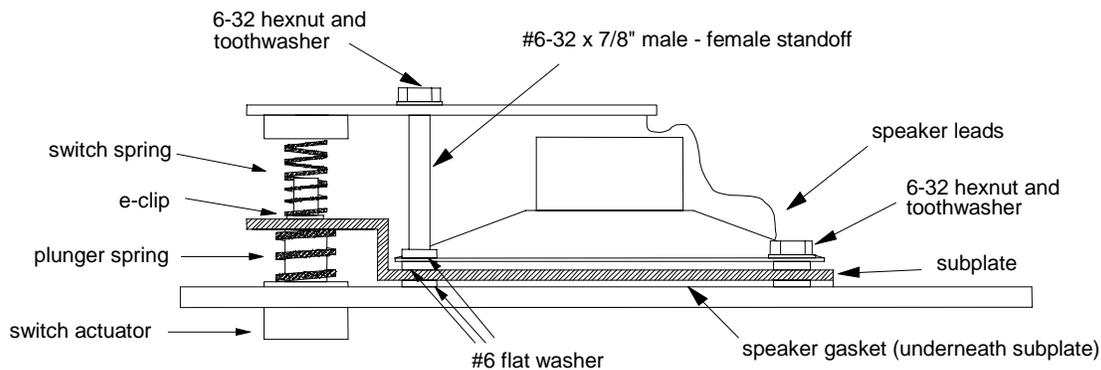

Figure 1: Side View of a Typical Standard Station Assembly
3. Place one flat washer on each of the faceplate studs, followed by the speaker, with its leads furthest from the bend in the sub-plate as shown in Figure 1.